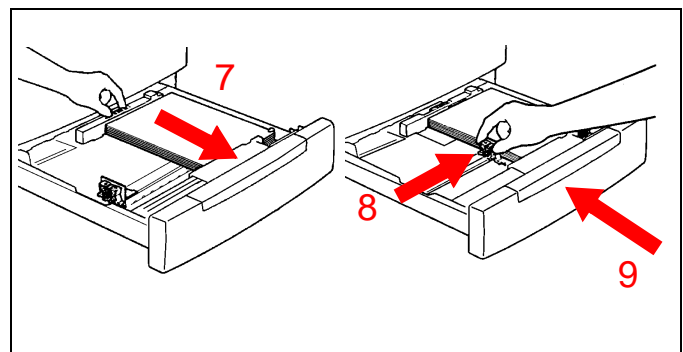

Figure 9
7. See Figure 9. Set the rear paper guide to the length of the paper.